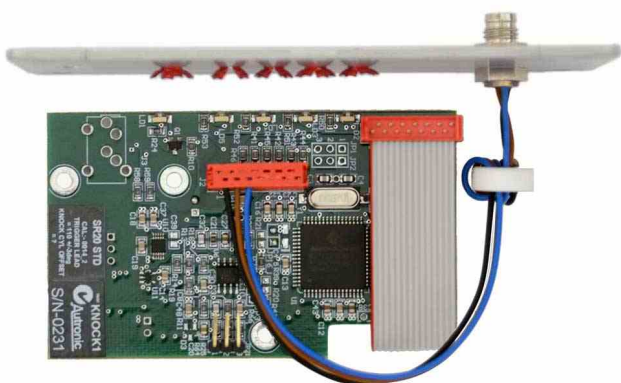

Figure 3a SM4 (revs A & B only)
2.1b PREPARATION FOR SM4 or SM3 ECUS and Rear End Plate for installation. Check ribbon cable and make external sensor cable connections as per Fig. 3a & 3b. Note that JP21 jumper is pre-configured for the intended application and should not be changed.